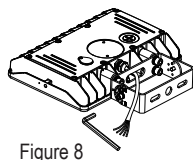

Figure 8
**Step 3:** Using an Allen key (3/16), mount the Trunnion bracket on the fixture, by tightening the 2 screws provided. (Figure 8)